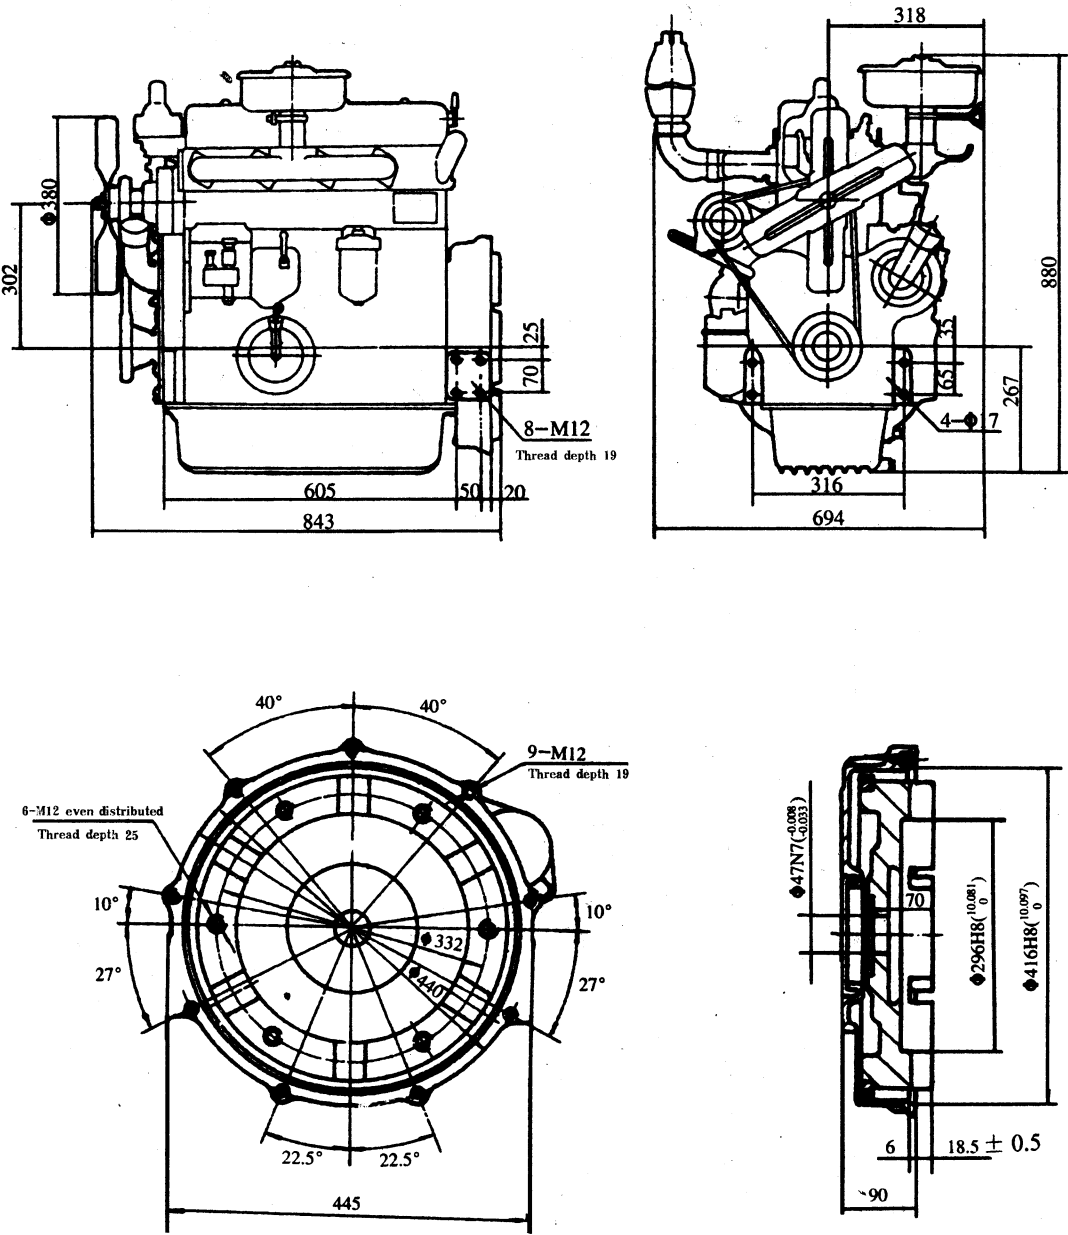

Fig.2 Outline drawing for 495 , 495G , K4100 diesel engine
* The air cleaner, exhaust manifold & oil gauge of 495G9 are the same as those of 495 (see Fig. 2)